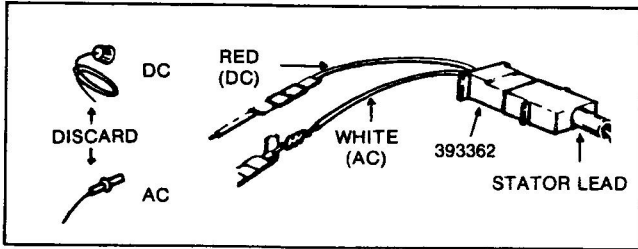

Fig. 8
- a. Cut off and discard DC charging connector from equipment wiring harness. Fig. 8. Strip insulation from cut wire for splice. Cut red lead of 393362 connector assembly to required length and strip insulation for splice. Splice two (2) charging leads together and solder. Tape splice with electrical tape.
- b. Cut off and discard equipment wiring harness AC lead connector. Fig. 8. Make splice to white lead of 393362 connector assembly as done in 5A.